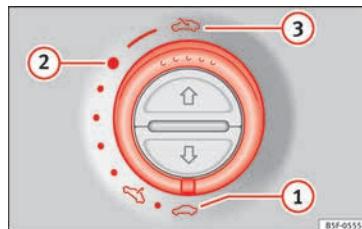

Fig. 11
- Opening: Turn the switch to position » Fig. 11 ③.
- Convenience position: Turn the switch to position » Fig. 11 ②.
- Closing: Turn the switch to position » Fig. 11 ①.